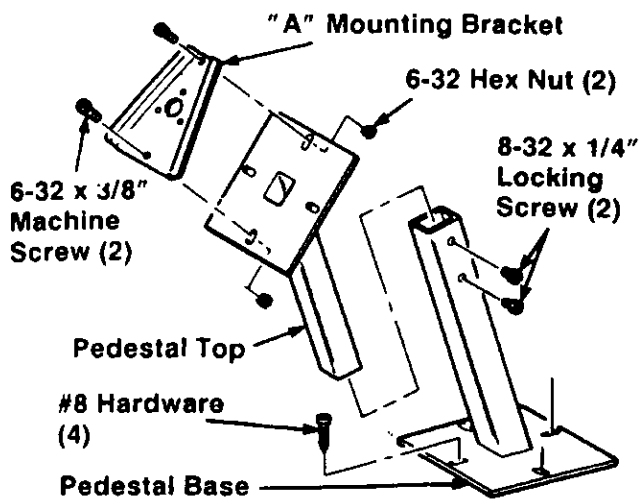

Figure 7 - Pedestal/Mounting Bracket Ass'y
5. As shown in figure 7 on the preceding page, attach the "A" mounting bracket to the pedestal mount (or to the electrical box as shown in figure 10 - if mounting to the wall).